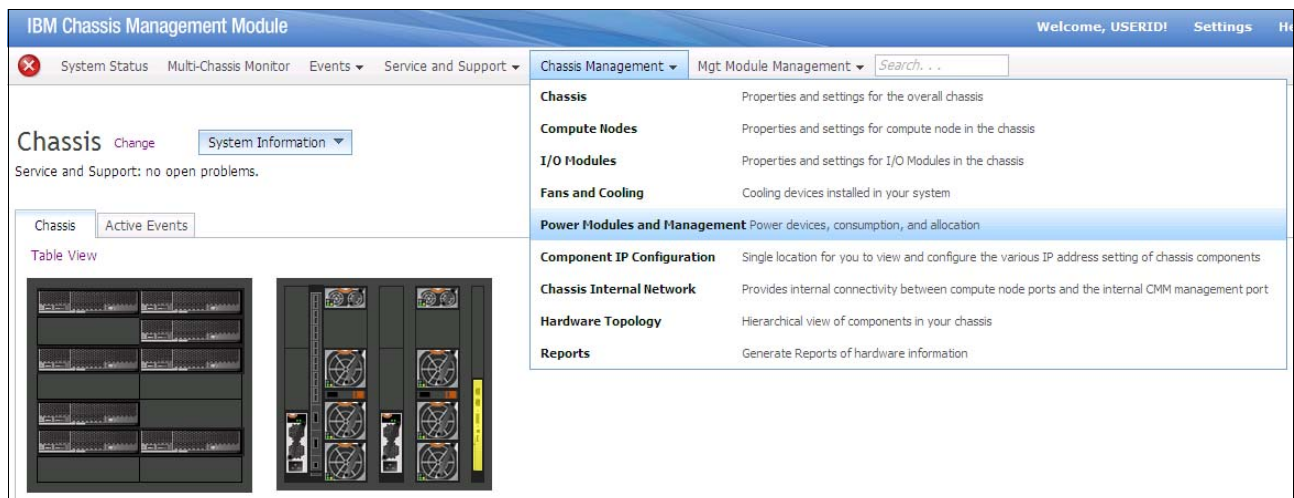
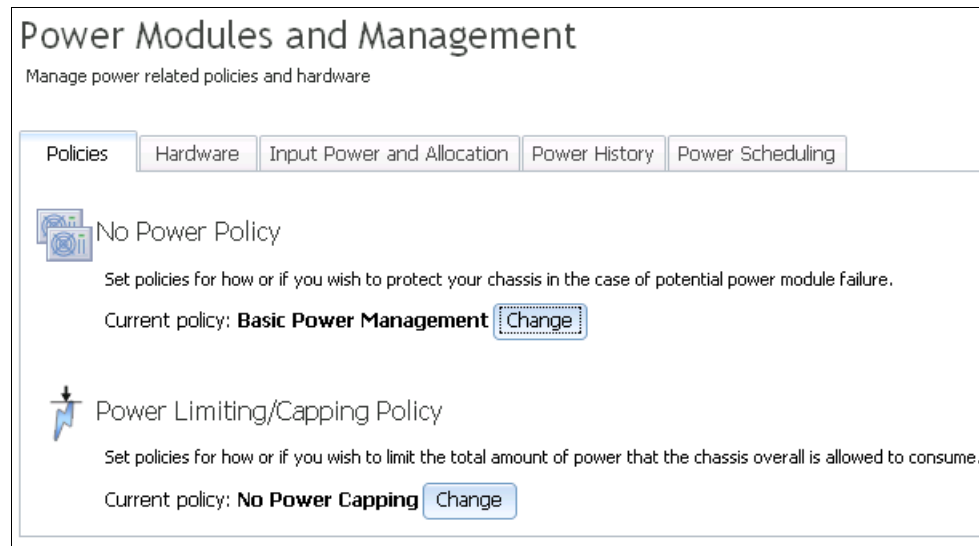

Figure 2-8 Chassis Management Module menu
Figure 2-9 Power Modules and Management window
1. From the menu bar at the top of the main CMM window, click **Chassis Management** → **Power Modules and Management**, as shown in Figure 2-8. The Power Modules and Management window opens, as shown in Figure 2-9 on page 22.
2. Click **Change** under the No Power Policy section (as shown in Figure 2-9) to set or change the power policy.
- Click **Change** in the Power Limiting/Capping Policy section of the Power Modules and Management window, as shown in Figure 2-9 on page 22. The Change Power Policy window opens, as shown in Figure 2-11. From this window, you can set or change the power capping policy. By setting a specific power static capping limit value, you can control the chassis power consumption that is suitable for your environment.